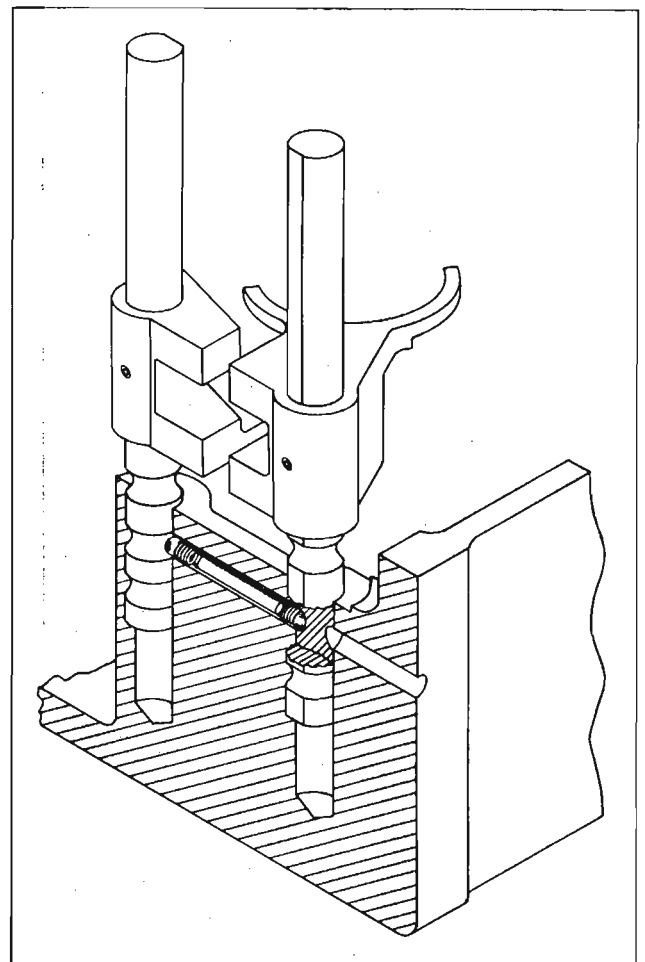
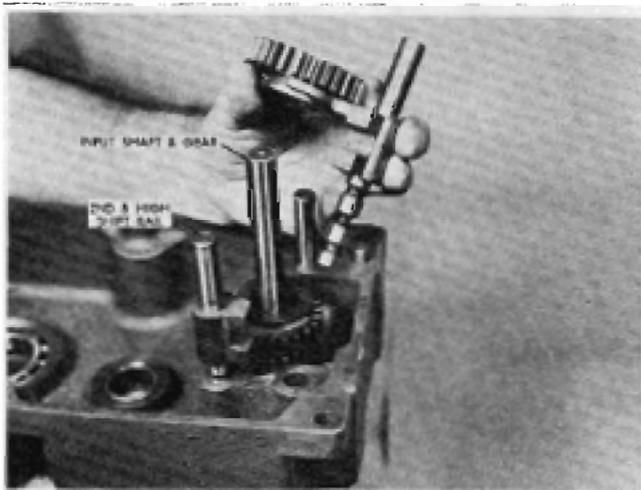

FIGURE 15
FIGURE 21
3. Install one stop ball, spring and stop pin. Refer to detent drawing and Figure 15.
4. Install the 2nd stop ball and using a punch push the ball in against the spring. Move the 2nd & high shift rail into the neutral position and continue to push on the punch until the ball is flush with the shift rail bore. At the same time insert the low and reverse shift rail and fork assembly, removing the punch, as the shift rail passes the ball. See Detent Drawing. Figure 15 and 16.
- 2B. Install the 2nd and high shift rail and fork assembly (the one with the unequally spaced detent grooves) together with the 2nd and high sliding gear (the smaller of the two sliding gears). The sliding gear fits down over the input shaft with the shift fork groove up. See Figure 21.
- 3B. Install one stop ball, spring and stop pin. See drawing Figure 15.
- 4B. Install the 2nd stop ball and using a punch push the ball in against the spring. Move the 2nd & high shift rail into the neutral position and continue to push on the punch until the ball is flush with the shift rail bore. At the same time insert the low and reverse shift rail and fork assembly together with the low and reverse sliding gear, removing the punch as the shift rail passes the ball. (See detent drawing Figure 15.) Note: The low and reverse gear fits down over the input shaft with the shift fork groove down. See Figure 21.